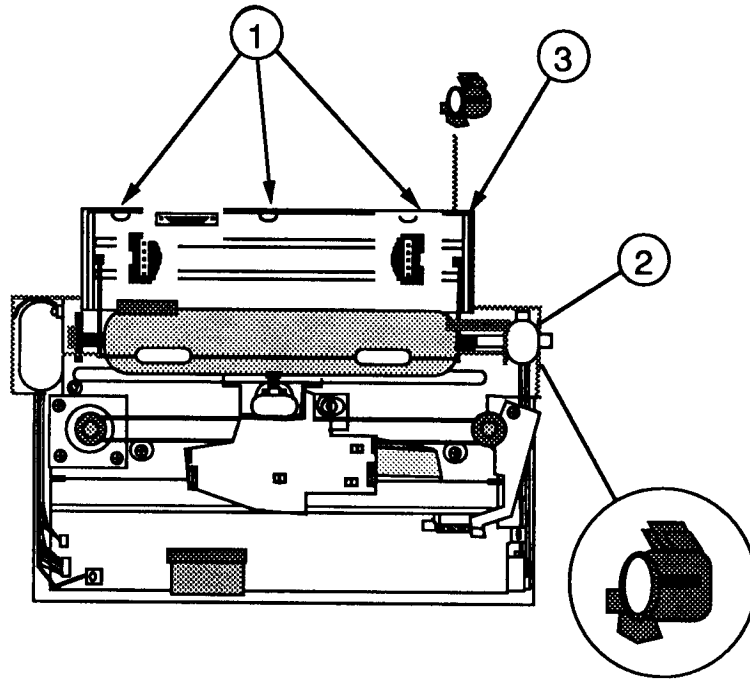
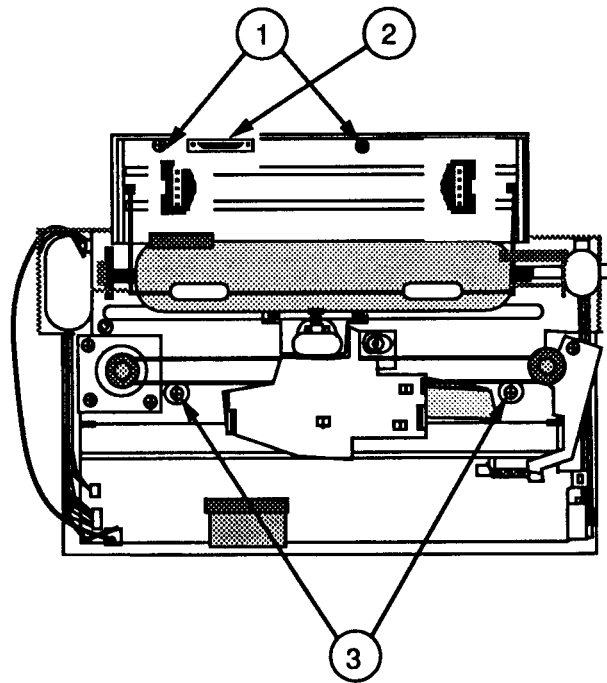

FIGURE 26
FIGURE 27
5. Remove the black plastic friction adjustment piece (Figure 26, #2) that has been supporting the frame at the right rear of the printer (Figure 26, #3) and put it back on the platen shaft, making sure that the teeth engage the gear properly. Also make sure that the sheet feeder sensor plug is exposed and its wires are securely underneath the frame and not being crushed.
6. Reseat the frame in the printer by gently pushing back on the rear of the printer case and lowering the metal frame down under the three tabs of the case (Figure 26, #1). The frame is seated properly when the two white plastic plus-sign-(+)-shaped flanges, next to the shock mount screws (Figure 27, #3) on the bottom are fully exposed and no part of the frame is resting on them.
7. Replace the two black shock mount screws at the bottom of the frame (Figure 27, #3). (The shorter screw mounts on the right side).
8. Replace the sheet feeder sensor plug and its connector plate (Figure 27, #2).
9. Replace the two screws (Figure 27, #1) located above the tractor assembly that secure the upper mechanical assembly frame to the printer case.